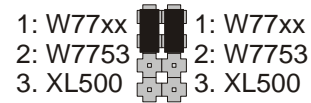

Fig. 7. Jumper setting of CLCM4T,5T,6T (SERVAL)
3. Verify wall module wiring with Table 4 or Table 5 and jumper setting with Fig. 7.
The jumper setting of the CLCM4T,5T,6T with the SERVAL is shown in Fig. 7.